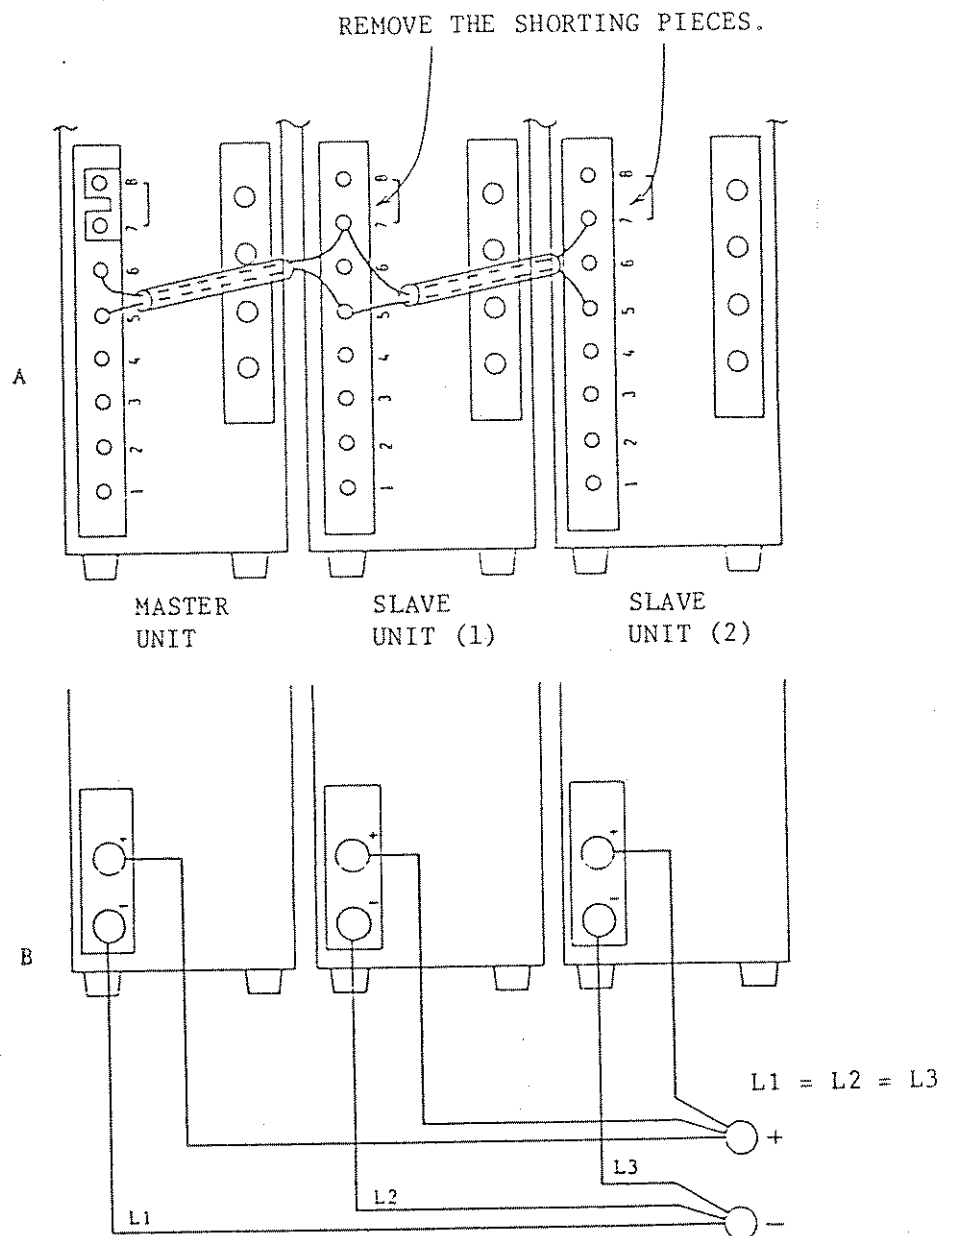

Figure 2-9-1
- When in the constant resistance mode of operation, the loading resistance can be remote-controlled with a resistance signal in the procedure of 2.8 (2).
- o Two or more units can be connected in parallel to increase the loading current capacity and the operations of such units can be controlled by controlling only one of the units connected in parallel. (In a master/slave system with the selected one as the master unit and the others as slave units.) For the following explanation, refer to Figure 2-9-1.